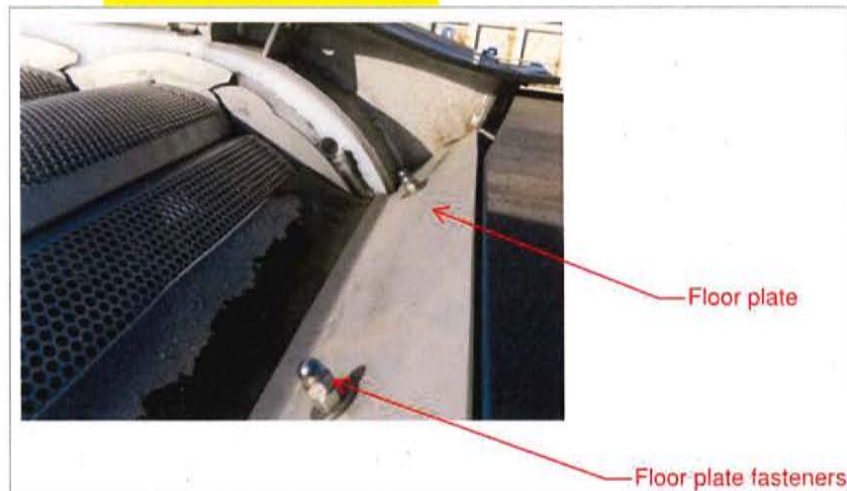

Figure 2-4: Floor plate adjusted to lay flat on channel floor
7. Once the screen has been installed in the channel, the floor plate of the screen must be adjusted so that it will lie flat on the bottom of the channel to not allow any debris to go under the screen. (See Figure 2-4) (For Pivoting Screen Only)